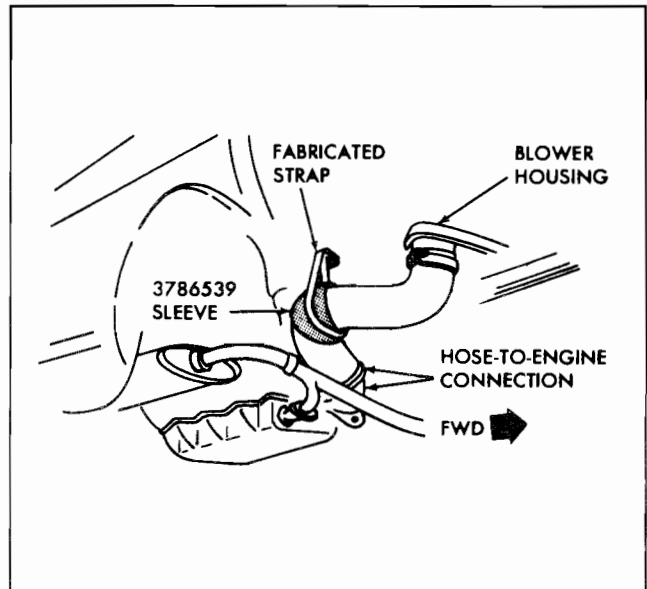

Fig. 10—Sleeve and Strap—Installed View
4. Install the fabricated strap as shown in Figure 10.